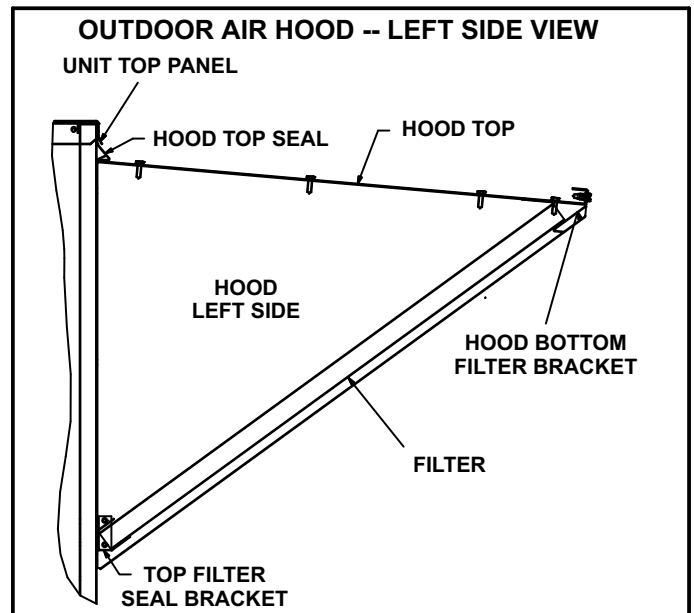

FIGURE 11
- 6- Before securing unit top panel with retained screws, position the outdoor air hood top seal under the panel as shown in figures 11 and 12. The outdoor air hood top seal is shipped with the other outdoor air hood components.
- 4- Secure hood left side to the hood top and to the unit cabinet using the provided screws. See figure 11.